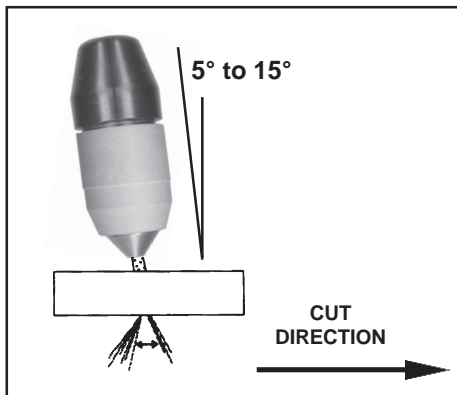

Figure 4-2. Proper Torch Angle
6. After starting the cut, the torch should be maintained at a 5-15° forward angle (Figure 4-2). This angle is especially useful in helping to create a "drop" cut. When not using the standoff guide, the nozzle should be held approximately 1/4 in. (6.4mm) from the work.